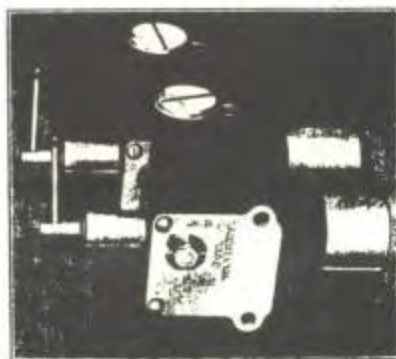

Fig. 6-54. Choke Calibration
If no calibrating fixture is available, a reasonable close calibration may be made as follows: (See Fig. 6-54)
2. When the temperature of the two units has become the same, insert a match stick or other suitable indicator in the slot of the coil shaft on each choke unit. See Fig. 6-54.
5. If the match sticks or indicators are not parallel, loosen coil adjusting screw (9) on the questionable unit and rotate coil shaft so that indicators are parallel. Lock coil adjusting screw in place and recheck calibration as outlined. When the two indicators are parallel, the calibration is correct.